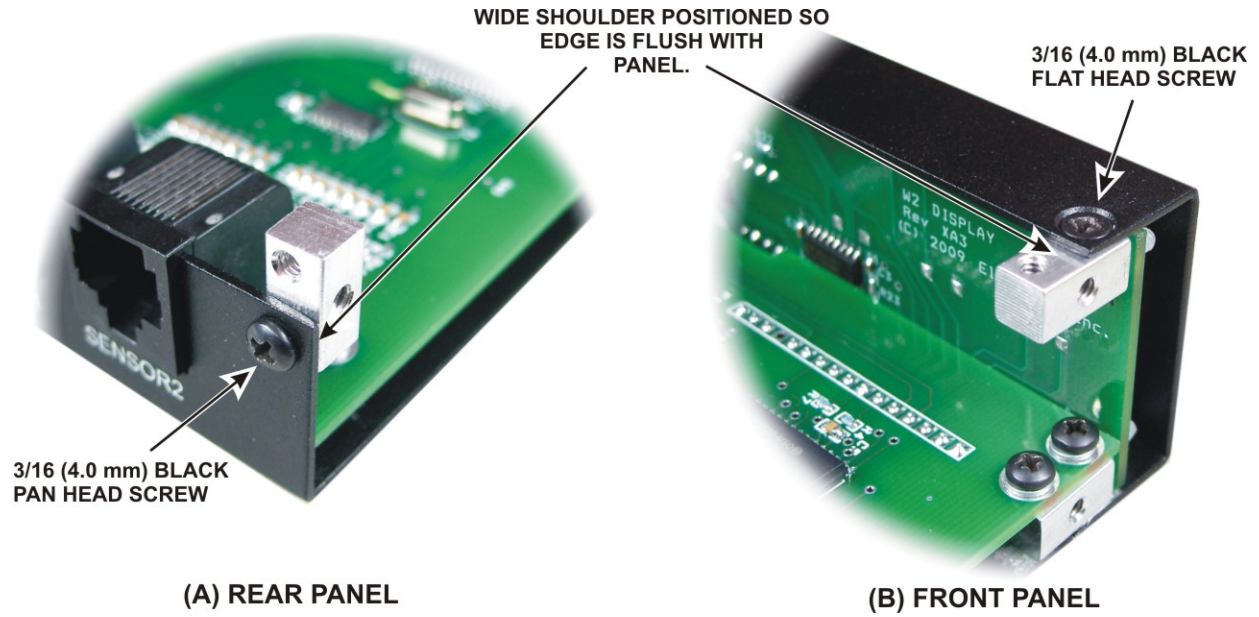

Figure 10. Mounting Front and Rear Panel 2D Fasteners.
Install a 1/4" (6.4 mm) black pan head screw into the mounting hole for the PTT RY connector as shown in Figure 10. **Do not tighten this screw! It only threads into plastic. Stop turning when the head reaches the back panel.** Even though you don't tighten the screw, it provides critical support to keep the connector from flexing when connectors are inserted.
- Mount 2D fasteners with 3/16" (4.0 mm) black pan head screws at each end of the rear panel cover as shown in Figure 10 (A). Install one fastener at each end of the panel. Do not use lock washers.
- Mount 2D fasteners with 3/16" (4.0 mm) black flat head screws at each end of the front panel cover as shown in Figure 10 (B). Install one fastener at each end of the panel. Do not use lock washers.